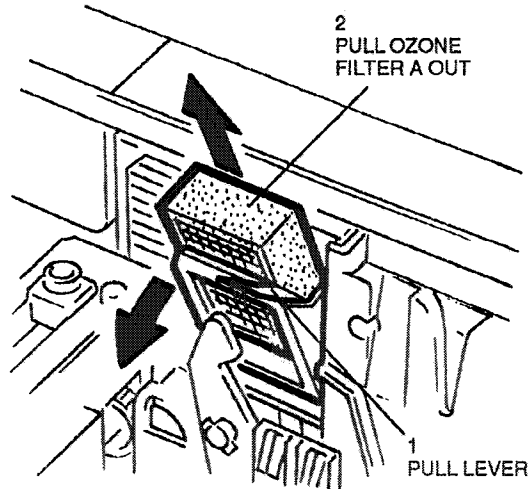

Figure 1. Ozone filter A removal
1. (Figure 1) Remove ozone filter A.